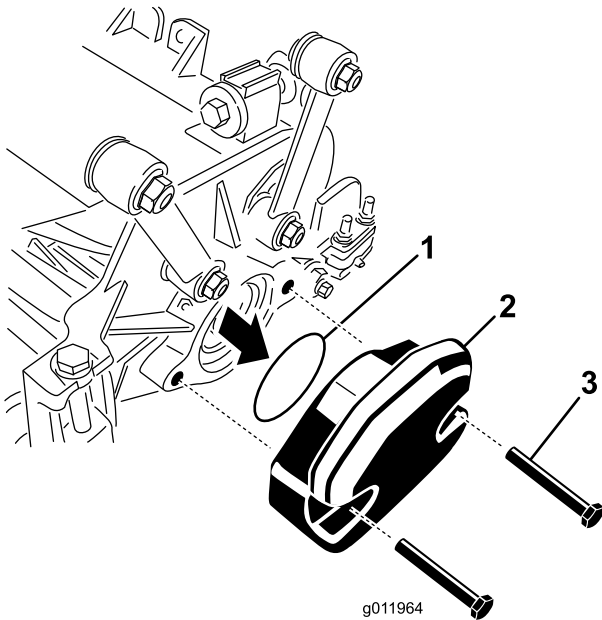

Figure 6
1. On cutting unit 3, remove the 2 cap screws securing the counterweight to the left end of the cutting unit, and remove the counterweight (Figure 6).